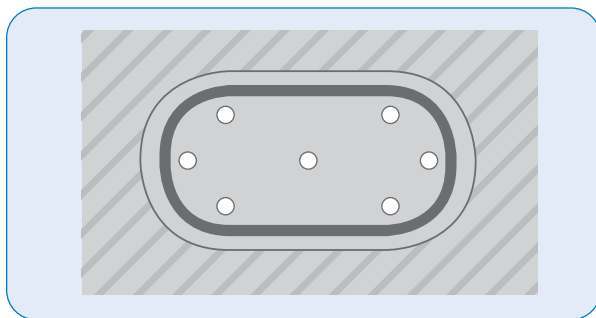

Figure 3
- An adequate number of air evacuation ports⁵ that are appropriately sized and correctly placed are important for good forming and unrestricted air release (Figure 3). We recommend: